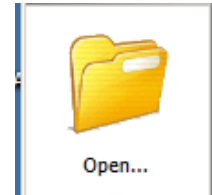

Figure 38
A) Hold the cursor over the "**OPEN**" button of the Tool Panel (Figure 38).
B) Click on the "**OPEN**" button on the Tool Panel (Figure 38).